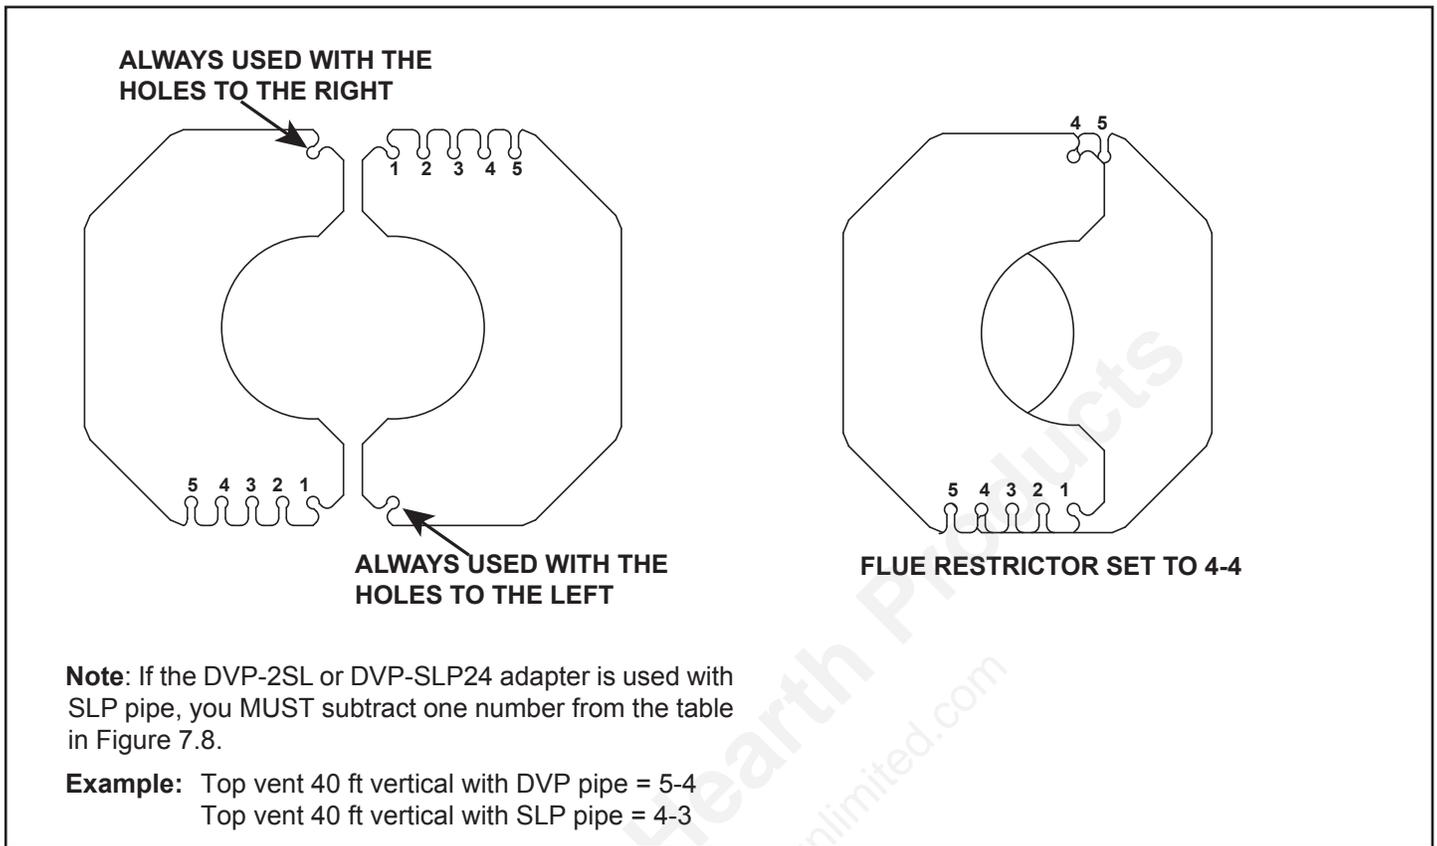

Figure 7.9 Setting the Flue Restrictor
Note: If installing a vertical vent/termination off the top of the appliance, the flue restrictor should be used. See Figure 7.9.
2. Orientate and align the two pieces of the flue restrictor as shown in Figure 7.9.